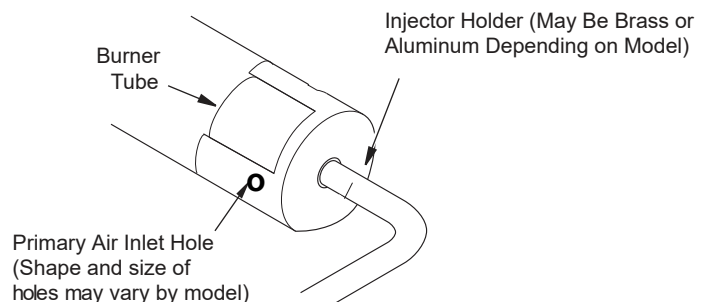

Figure 21 - Burner Primary Air
2. Inspect burner, pilot, and primary air inlet holes on injector holder for dust and dirt (See Figures 21 and 22).